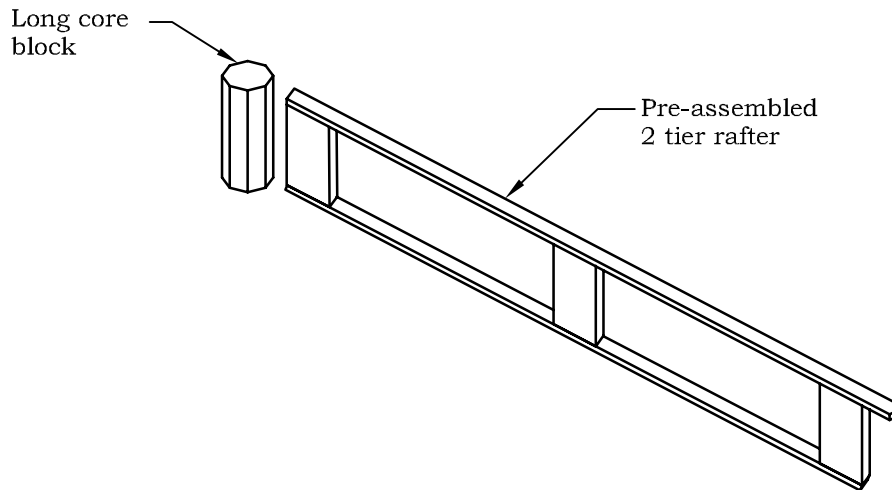

FIGURE S19
- The TWO TIER Rafter section will be assembled at this point. Toenail the Long Core Block the one of the Two Tier Rafter sections making sure that the Core Block is flush with the top of the Top Rafter. See Figure S19.